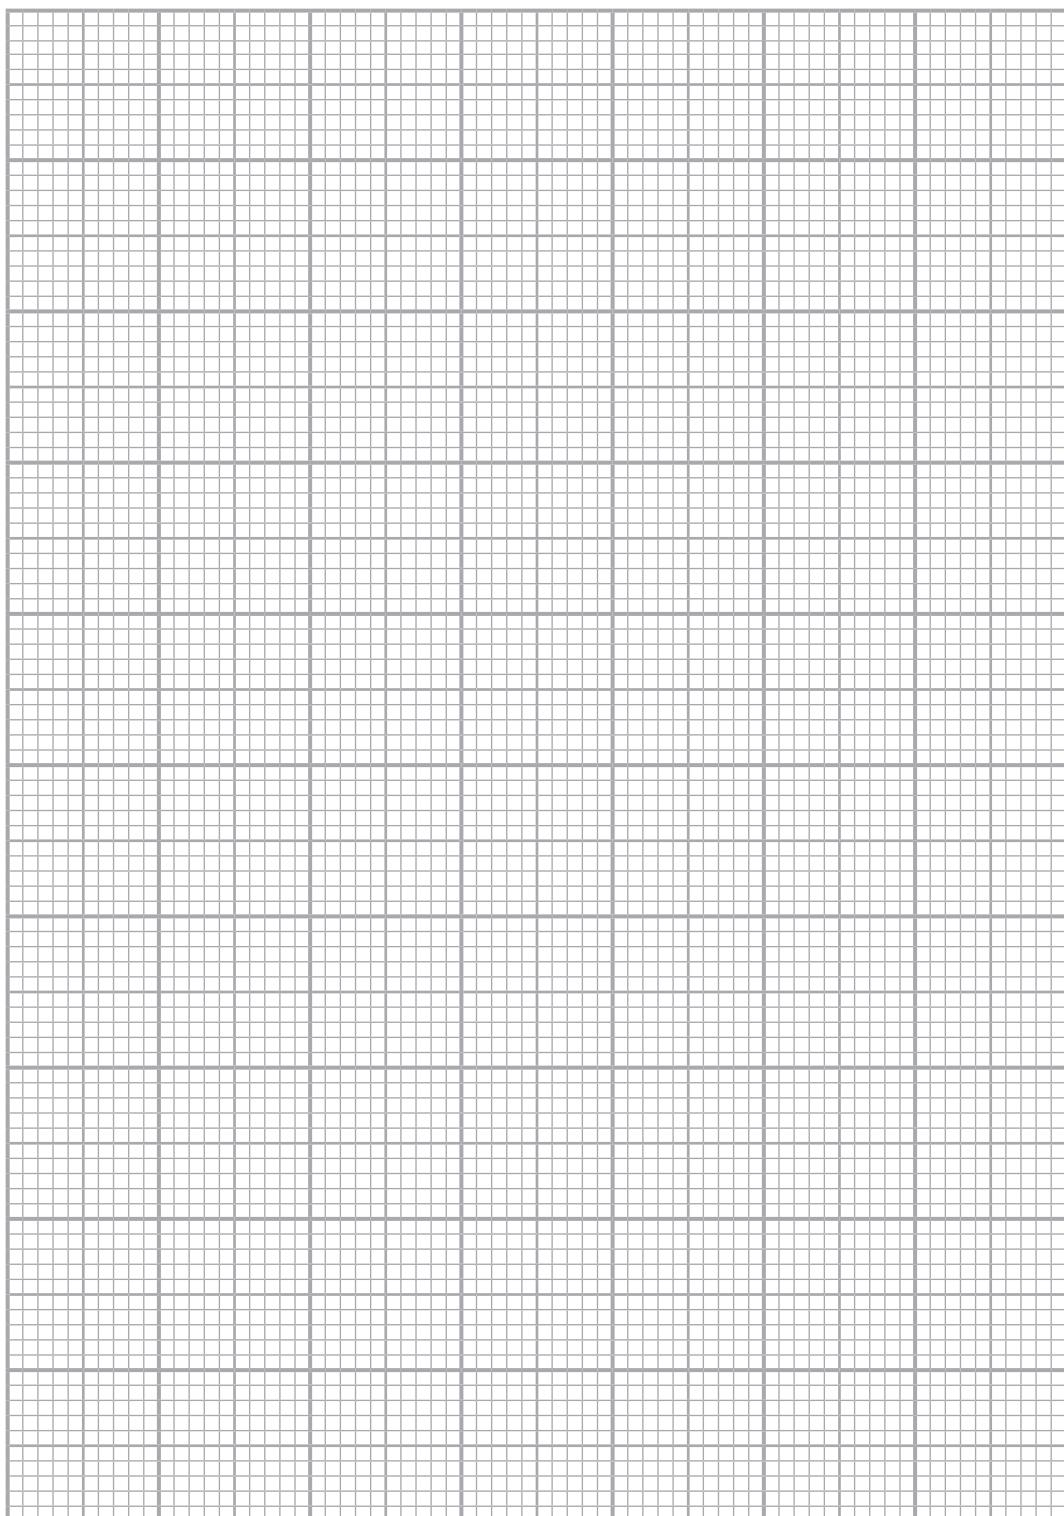

Fig. 1.2
- (ii) On the grid of **Fig. 1.2**, plot t against \sqrt{h} and draw the best fit straight line for the points plotted. [5]